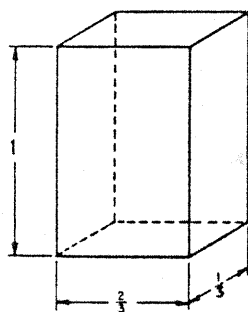

Figure 2
4. The duct for square or rectangular ports should be constructed of ¼-inch or thicker plywood, using corner blocks, if necessary, for rigidity. The duct for a round port may be constructed of materials such as linoleum or even heavy cardboard, as long as the finished duct is sturdy and vibration-free. (See Figure 2.)
Size is no problem this time, so the largest suggested enclosure volume for the 12TRXB is taken from Figure 2 (15,000 cubic inches). From the intersection of the 15,000 cubic inch line and the 12TRXB line, once again drop a vertical line through the lower portion of the graph. Using the $A = 100$ line, we determine a duct length of $3\frac{3}{8}$ ". However, follow the vertical line further down for a moment. You will notice a broken line drawn horizontally at a duct length of .75, or $\frac{3}{4}$ ". In effect, the hole cut in the front panel of the enclosure creates a duct $\frac{3}{4}$ " long! Thus, you could cut a port with an area of approximately 70 square inches and not have to add any duct